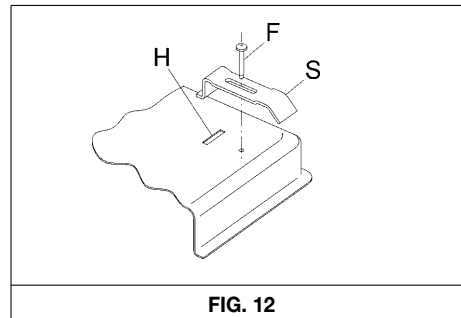

FIG. 12
- Fix the hob with the proper brackets "S" and fit the prominent part into the porthole "H" on the bottom; turn the screw "F" until the bracket "S" stick on the top (fig. 12).